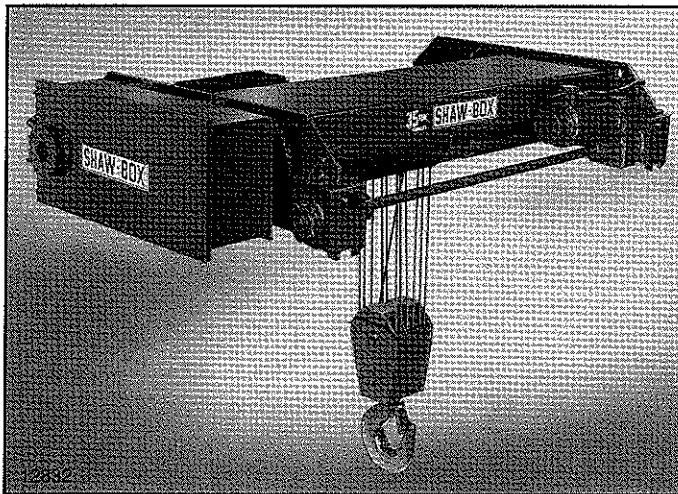

Figure 8-1. Hoist Machinery Arrangement.
The standard hoist drive has the hoist motor mounted on the inside of the trolley frame with the hoist speed reducer mounted on the outside of the trolley frame as shown in Figure 8-1.
a. General. Hoists are equipped with a holding brake which applies torque to the motor shaft sufficient to hold the load. The hoist uses a disc type brake mounted on the motor pinion shaft which extends through the gear case cover. It is seen to the left of the SHAW-BOX sign in Figure 8-1.